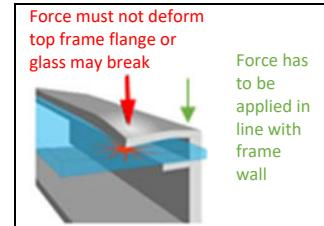

Figure 1a: Clamp Force Locations
2) **Pressure Clamps or Clips:** Mount the module with the opposite clips on the longer and/or shorter side of the frame of the module. The clips allowed location should be according to Appendix. Installers should ensure the clamps are of sufficient strength to allow for the maximum design pressure of the module. Clips and clamps are not provided by Maxeon. Clamps must apply force collinear with the 'wall' of the module frame and not only to the top flange. Clamps shall not apply excessive force to the top frame, warp the top flange, or contact the glass-these practices void the module warranty and risk glass breakage. Figure 1a illustrates locations for top frame clamp force. Avoid clamping within 50mm of module corners to reduce risk of frame corner deflection and glass breakage. When clamping to the module frame,